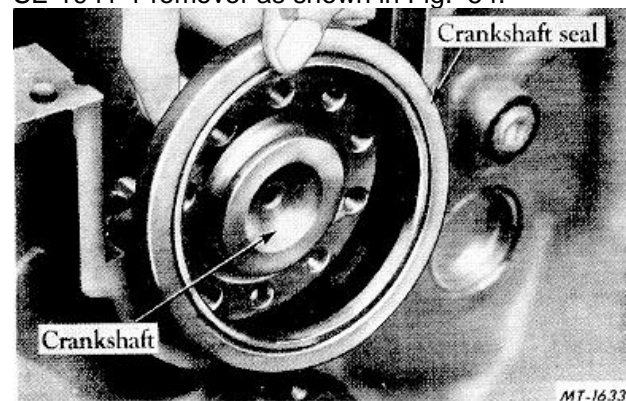
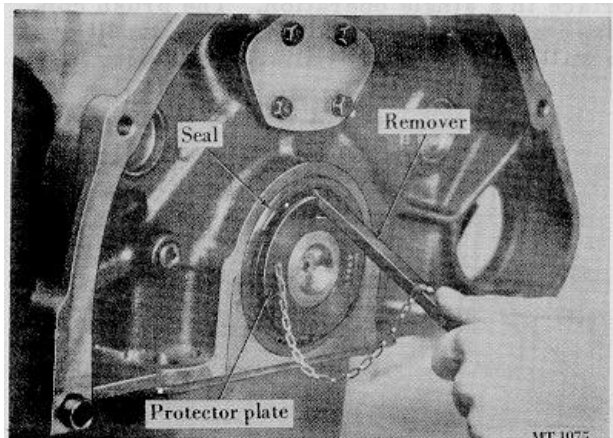
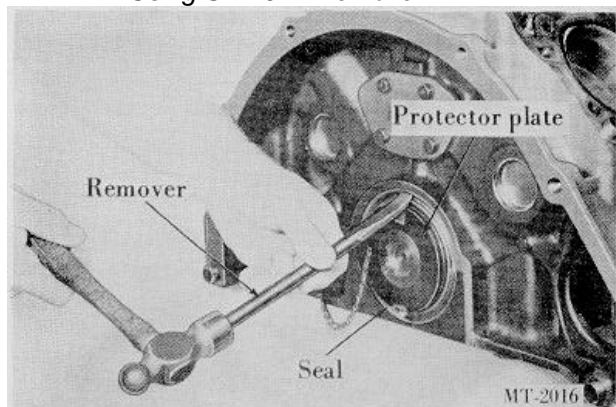

Fig. 52 Removing Rear Main Bearing Cap Oil Seal from Crankshaft
Fig. 53 Removing Rear Main Bearing Cap Oil Seal from Crankshaft with Engine in Chassis Using SE-1941 Remover
Fig. 54 Piercing Seal Retainer Using SE-1941-1 Remover
56. Remove rear main bearing cap oil seal from end of crankshaft, Fig. 52. NOTE: Rear main bearing cap oil seal can be removed with engine in chassis providing the SE- 1941 remover is used. This can be accomplished by positioning the protector plate SE-1941-2 on the crankshaft hub to prevent damaging crankshaft flange while removing oil seal. Using the long notch in the protector plate, insert remover SE-1941-1 between the oil seal retainer I.D. and crankshaft flange at various locations, Fig. 53, to start seal out. A number of optional type seals are used at this application; therefore, it must be noted on some types of seals there is not sufficient clearance to insert the remover between retainer and crankshaft flange. On these type seals it will be necessary to pierce the seal retainer at a number of places using SE-1941-1 remover as shown in Fig. 54.